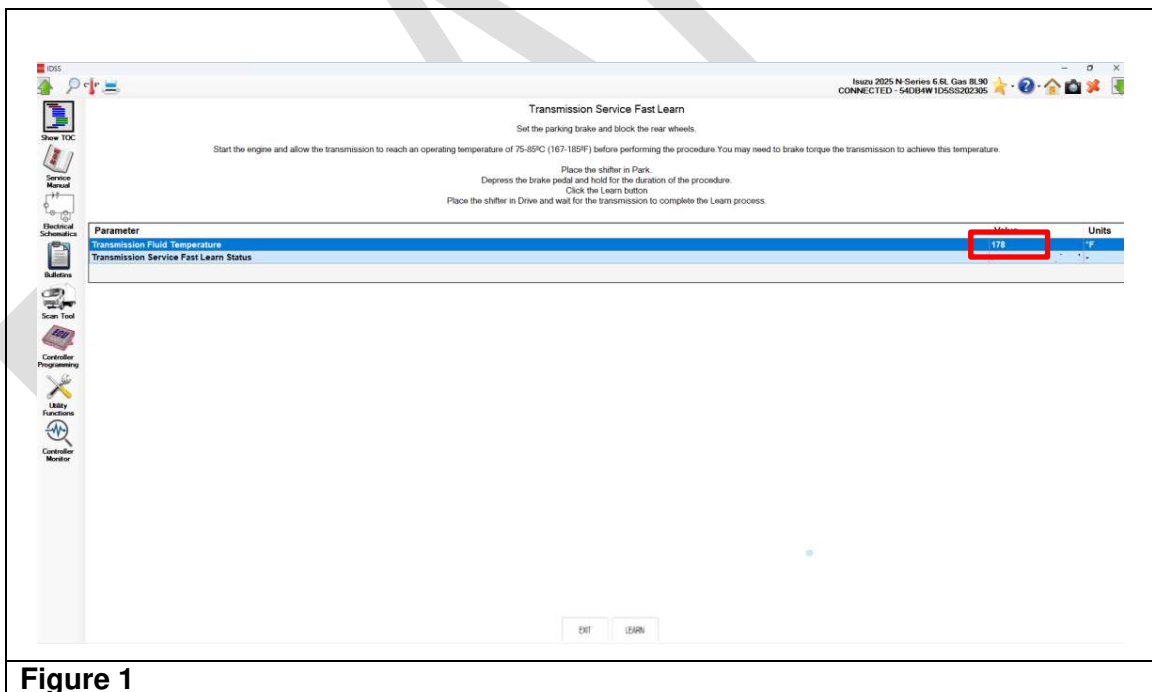

Figure 1
7. Using IDSS, go to Scan Tool > Output Control Test > Transmission > Transmission Service Fast Learn and confirm the transmission fluid temperature is between 75°C (167°F) and 85°C (185°F). (See Figure 1)